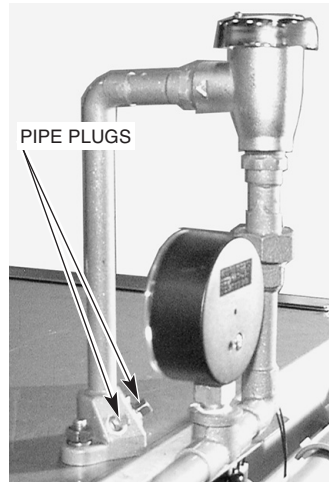
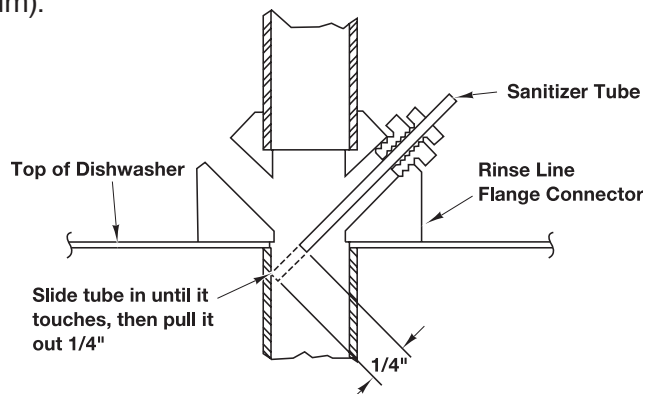

Fig. 20
Fig. 21
The rinse line flange connector on top of the dishwasher has two $\frac{1}{8}$ inch NPT pipe plugs (Fig. 20).
- Remove the plug(s) (Fig. 20) for installation of the rinse aid dispenser tube and / or chemical sanitizer tube, as needed.
- Remove the pipe plug (Fig. 20) for installation of the chemical sanitizer tube. To assure an unobstructed flow of sanitizer, locate the sanitizer tube in the center of water flow by drilling the sanitizer tube fitting so that its inside diameter is equal to the outside diameter of the tube. Slide the tube into the flange until it touches the opposite side and then pull it back out $\frac{1}{4}$ inch (Fig. 21).